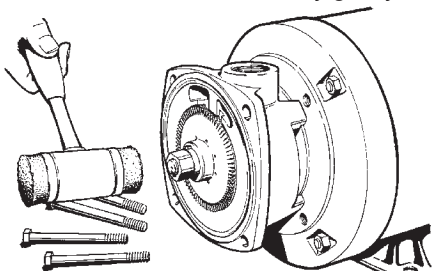

Figure 4-7
2. Remove the four (4) 3/8" X 4" bolts (#19) from the cover. (#2)
4. Remove the impeller (#11), refer to Figure 4-7. The impeller is a slip fit and, under normal conditions, can be removed by gently